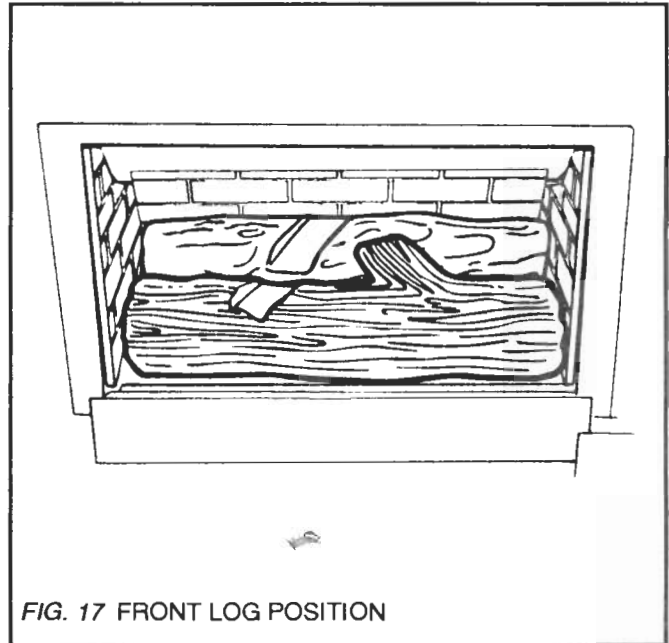

FIG. 17 FRONT LOG POSITION
12.4. Place the front log on the retaining cradles between the rear and front burner tubes (fig. 17). Center the log so that the gap to the side wall is the same at each side.